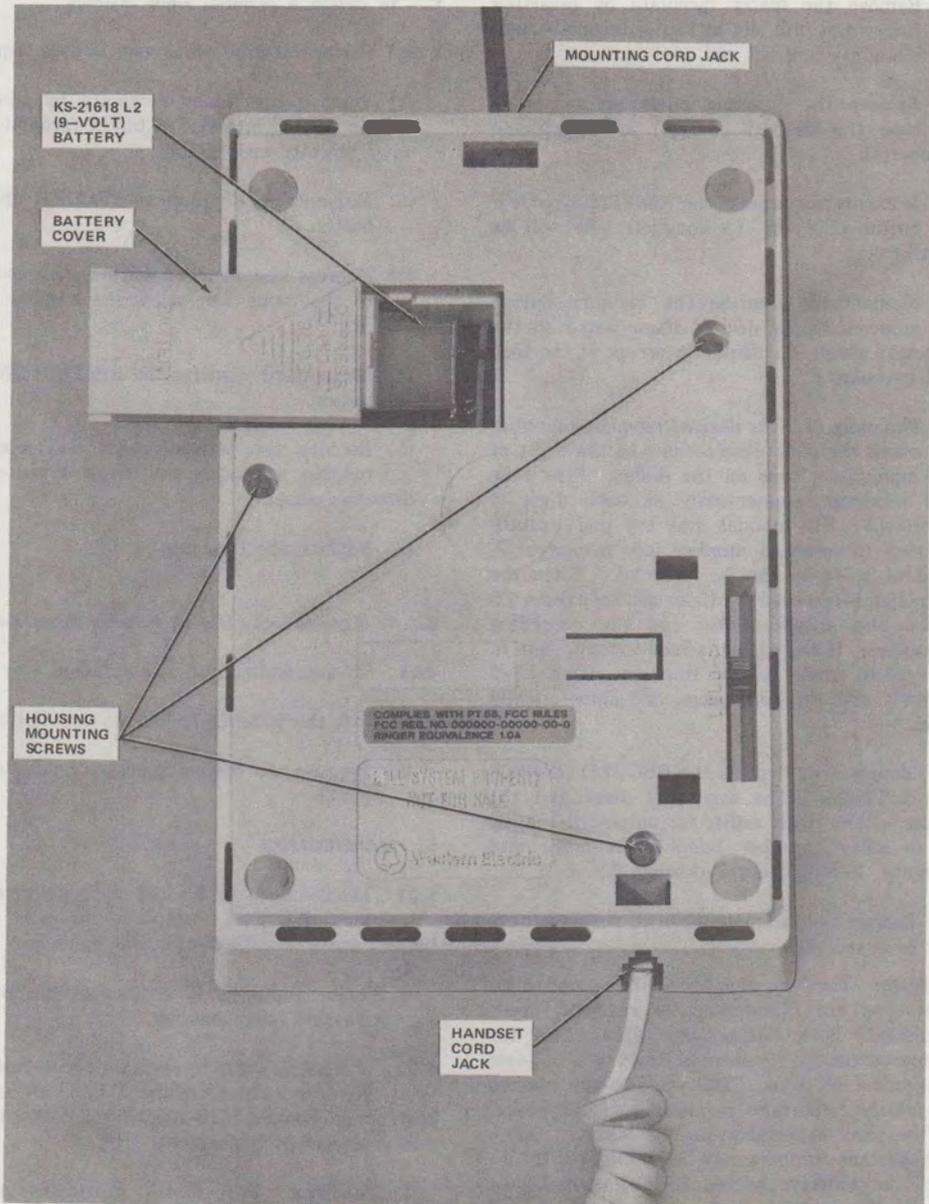

Fig. 3—5001T01A Telephone Set, Bottom View
**3.02** The telephone set is shipped with a 9-volt alkaline battery which is to be connected at the time of installation. Remove the battery cover located on the bottom of the telephone set and make the necessary connections (Fig. 3). Place the battery in the battery compartment and replace the cover.
**3.03** Plug one end of the mounting cord (D4BU) into the modular jack in the rear of the set and the other end into the 625-type modular connecting block. Connect the handset cord to the set (Fig. 3).
(1) Dial the appropriate code for ring-back to test the telephone set tone ringer. Move the ringer volume control lever (Fig. 3) on the bottom of the set to check variation of volume. There is no provision for ringer cut off using the volume control.
(2) Call the CO dial test line, when connected press the dial buttons in sequence 1 through 9, \*, 0, and # verifying that correct signals is returned from the CO.